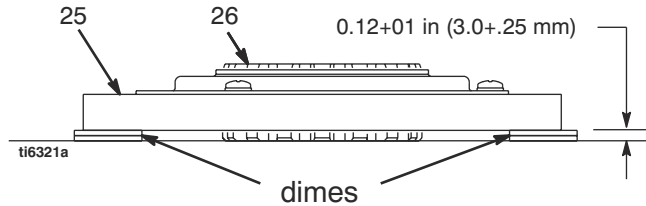

FIG. 8
- FIG. 8. Lay two stacks of two dimes on smooth bench surface.
- Lay armature (25) on two stacks of dimes.
- Press center of hub (26) down to bench surface.